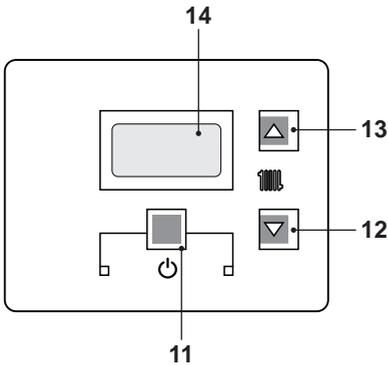
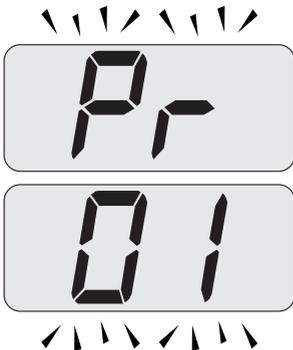
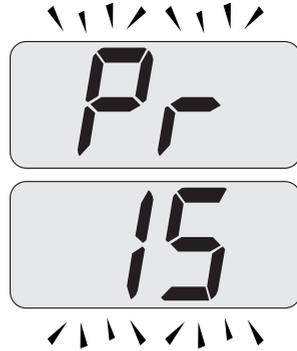

Fig. 7.16
Fig. 7.17
Fig. 7.18
- Enter in "programming mode" by pressing keys 11 - 12 - 13 (Fig. 7.16) for 10 seconds at the same time until the letters **Pr** that alternate with code 01 are displayed on the LCD display, indicating that "parameter 01, has been activated (Fig. 7.17).
- Scroll the various parameters using keys 12 or 13 until the letters **Pr** that alternate with code **15** are displayed on the LCD display, indicating that "parameter 15"(Fig. 7.18) has been activated.
- Press keys 11 and 13 (Fig. 7.16) at the same time until the value of parameter 15 (Fig. 7.19) is displayed on the LCD display.
- By pressing key 11 (Fig. 7.16) confirmation of the inserted value is obtained.
- Press keys 11 and 12 (Fig. 7.16) at the same time to exit without changing the value (return to the parameters list Fig. 7.18)
- Press keys 11 - 12 - 13 (Fig. 7.16) at the same time for 10 seconds to exit the "programming mode.
However, if the ambient temperature is not comfortable, the flow temperature of the heating plant can be increased or reduced by  $\pm 15^\circ\text{C}$  by acting on keys 12 (reduce) and 13 (increase) (Fig. 7.16).